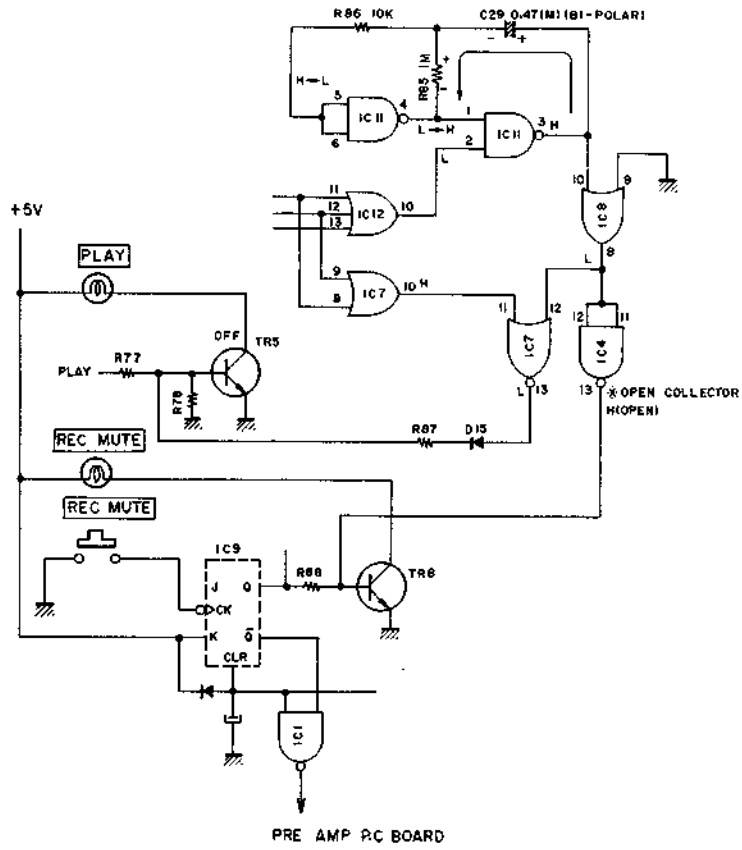

Fig. 7 Oscillation stopped
2) In mode other than those stated above, as shown in Fig. 7, IC12-10 is Low Level, so IC11-3 is High Level. Then, charging current flows through R85 to C29. At this time, due to R85's voltage drop IC11-5, 6 become High Level and IC11-4 becomes Low Level. However, when C29 finishes charging, R85's voltage drop disappears and IC11-5, 6 become Low Level and IC11-4 High Level. It then stabilizes.